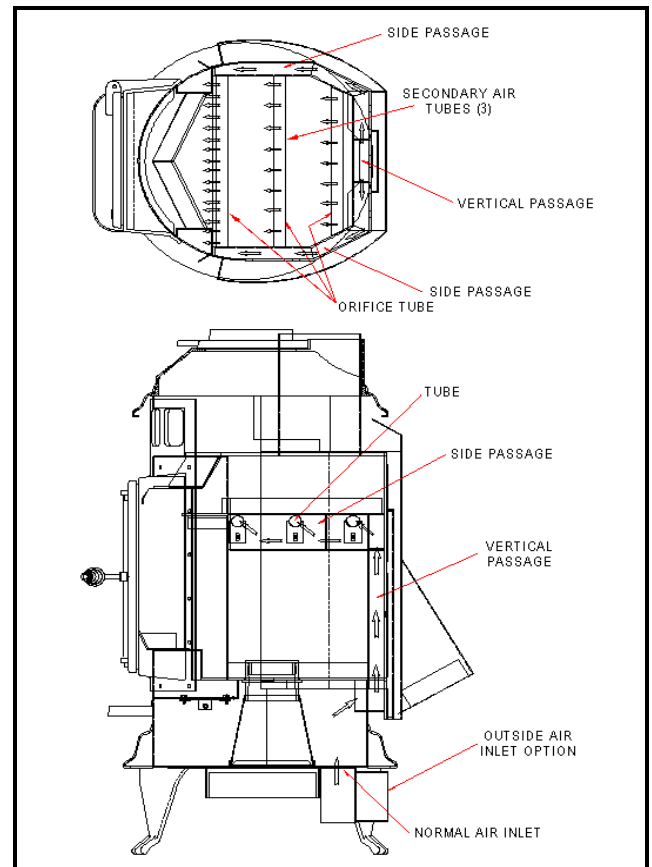
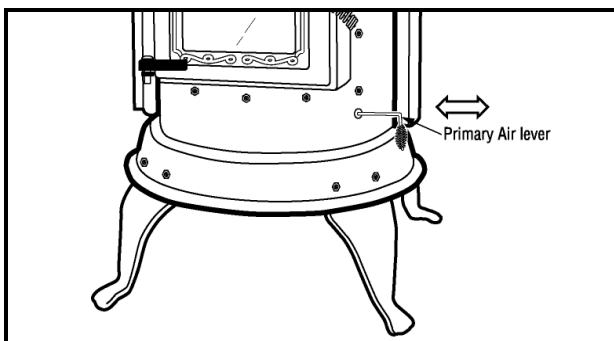

FIGURE 18. SECONDARY AIR FLOW
FIGURE 20. AIR LEVER
On start up, pull the primary air adjustment all the way out (see FIGURE 20), as this will allow for the quickest and hottest initial burn. At this point there is sufficient air to create a hot fire. As the primary air enters the firebox it is preheated and enters the fire chamber in front of the glass door, helping to keep it clean. The preheated primary air allows the temperature to rise to the point where secondary combustion takes place (air mixing with the unburned gasses creates secondary combustion). This usually takes about 15 to 20 minutes. This is demonstrated when the primary air is closed and the secondary air tubes (see FIGURE 18) begin igniting the gases exiting the heater. Look to the top of the firebox and notice the secondary
1. Pull out primary air lever all the way (see FIGURE 20).